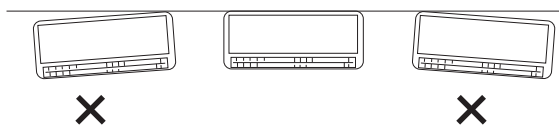

Fig. 3-3
- (3) Double check with a carpenter's level or tape measure that the panel is level. This is important to install the unit properly. (Fig. 3-3)